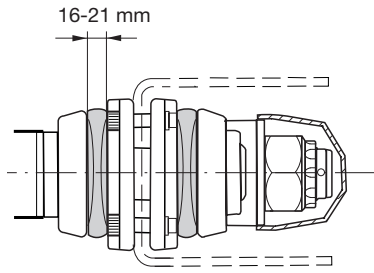

Figure 4
- To get the correct pre-loading on the rubber blocks, tighten the castellated nut until the distance between the edges of the beam plates is 16-21 mm. Use a 70 mm socket. See figure 4.